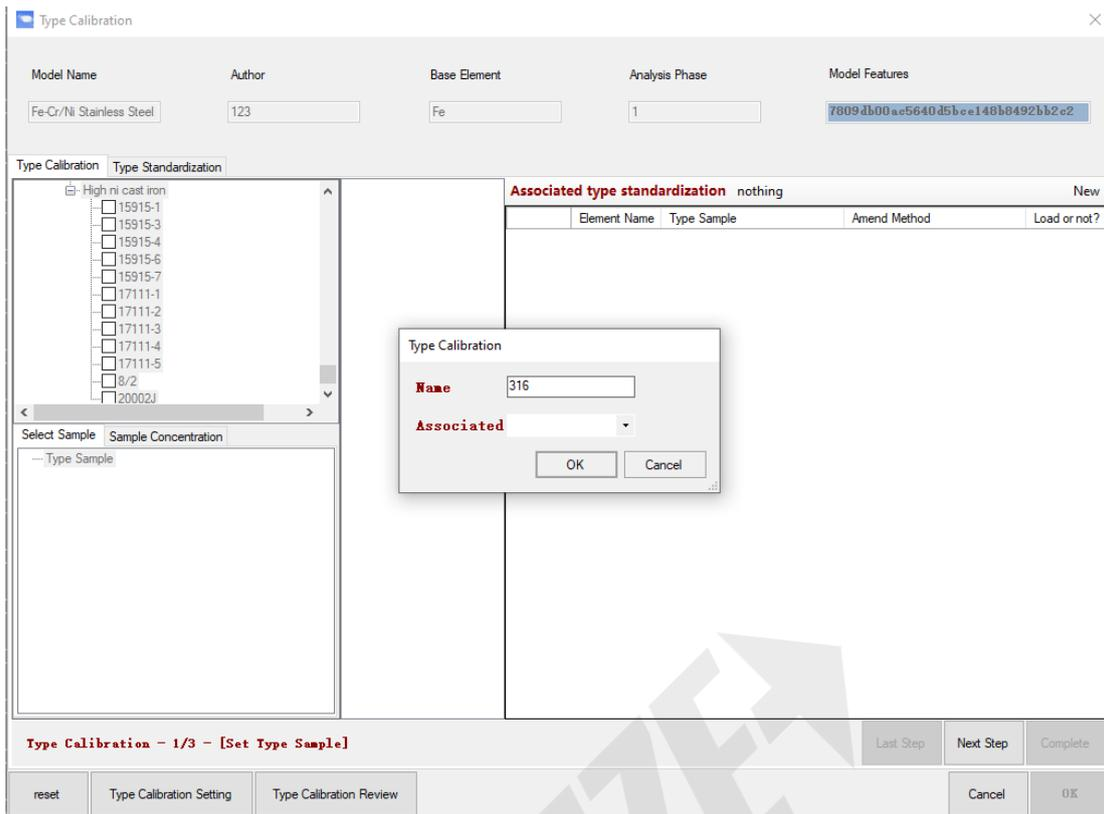

Figure 4-24 Enter sample name
Step 2 After clicking “New”, enter sample name, and then click “OK”, as shown in Figure 4-24: